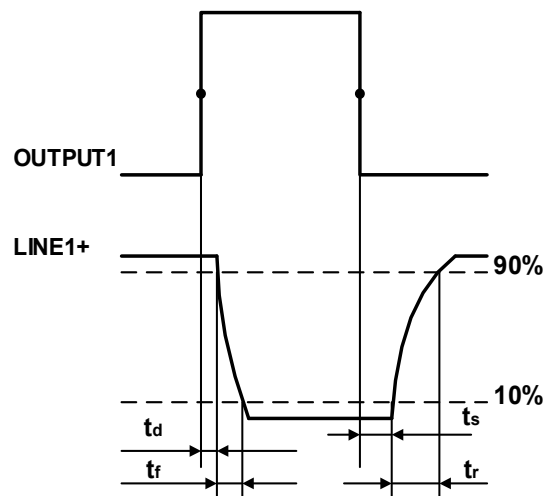

Figure 7-6 Parameter of opto-isolated output circuit
- Rising time delay = t_r+t_d : < 50 μs (0 °C ~ 45 °C) (parameter description: Figure 7-6)
- Falling time delay = t_s+t_f : < 50 μs (0 °C ~ 45 °C) (parameter description: Figure 7-6)